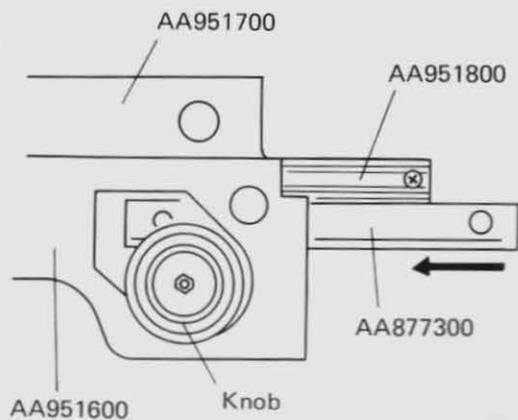

Fig. 11-23
- a) Insert Rack AA877300 in the arrow direction and aligning the threaded holes, clamp with screws temporarily. (See Fig. 11-23)